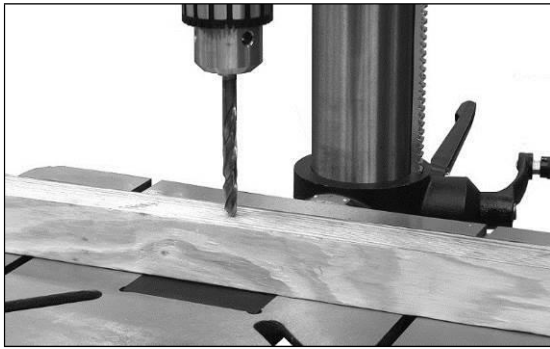

Fig 19
With the drill bit in the chuck, rotate the down feed handle (D) to advance the drill bit until it just contacts the top surface of workpiece. Fig 19